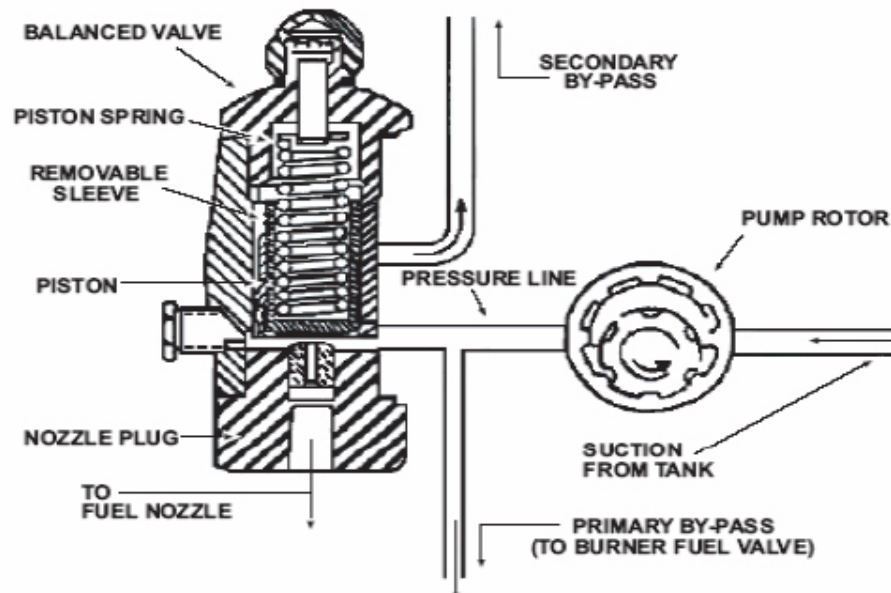

Figure 4-7 Schematic Diagram of Fuel Pump
4.30 The fuel pump is mounted on a bracket to the left of the engine. The pump is belt driven by the gas engine. There are three outlet ports and two inlet ports (**see figure 4-7**). The primary by-pass will handle all the flow if the balanced valve is closed. The burner valve, which is in the primary by-pass line, is closed to obtain fuel flow to the nozzle. Closing the burner valve allows the pump to build up pressure to the point where the balancing valve opens allowing fuel flow in the nozzle fuel line. The pressure at which the balanced valve opens is determined by the compression of the piston spring, normally the spring is adjusted to 150 psi. The secondary by-pass supplies fuel to the engine and returns surplus back to the fuel tank. When the burner valve is open the pump cannot build up sufficient pressure to open the balanced valve and effect flow through the nozzle fuel line. Since the pump delivers fuel in excess of the maximum nozzle capacity maximum nozzle capacity there will always be flow through the secondary by-pass line when the burner valve is on.